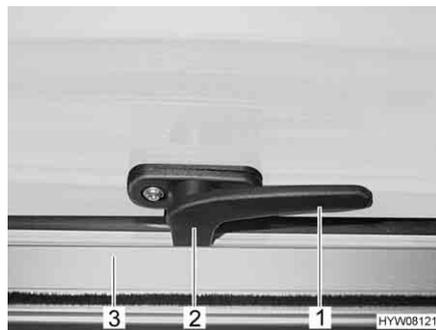

Fig. 99 Catch lever in "closed" position
- Turn the catch lever (Fig. 99,1) a quarter turn towards the centre of the window.
- Turn the catch lever (Fig. 99,1) a quarter turn towards the window frame. The locking catch (Fig. 99,2) is located on the inside of the window catch (Fig. 99,3).